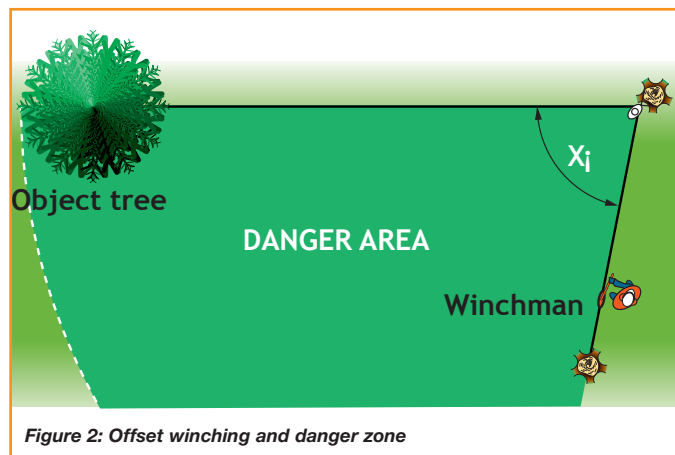

Figure 2: Offset winching and danger zone
- ❑ 20 A diverted pull may be used in confined sites to allow the operator to work in a safe position. Avoid walking or working in the triangle created by the offset winch cable (see *Figure 2*).
- ❑ 22 Be aware that when a snatch block is used, the loading on the block and anchor point can be doubled. The more acute the angle created, the greater the increase in loading (see *Figure 2 angle X°*). The pulley block, strop and anchor point must therefore be up-rated accordingly.